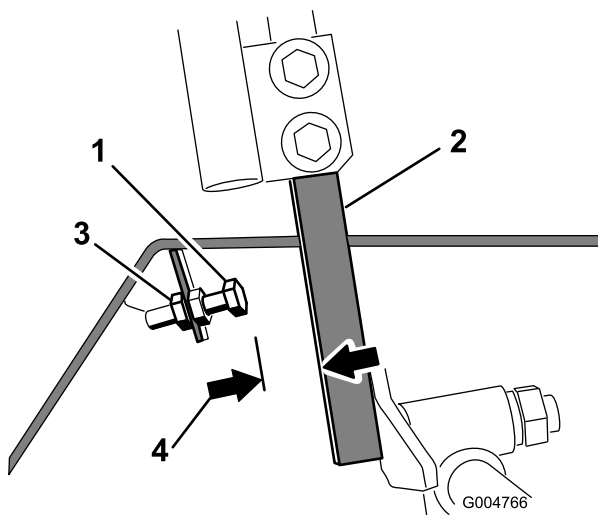

Figure 62
4. Loosen the jam nut on the stop bolt for one of the control levers (Figure 62).